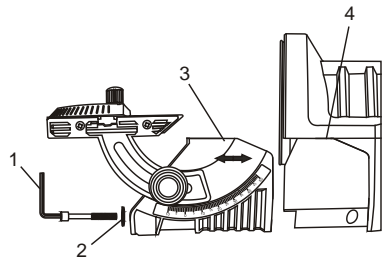
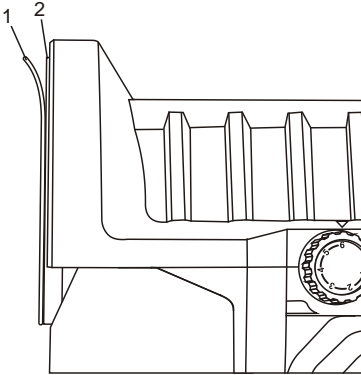

Fig. 3
Fig. 4
1. Insert the 5mm hex key (1) supplied into the sanding table assembly mounting screw (2) (Fig. 3).
3. Slide the sanding table assembly (3) outward away from the sanding plate.
**NOTE:** Once the sanding table has been removed, the sanding disc can be removed or installed as outlined in Fig. 4 below.
4. To reinstall the sanding table assembly, place it against the bottom of the motor housing (4) and slide it toward the sanding plate.
2. Peel the old sandpaper (1) from the plate (2)(Fig. 4).